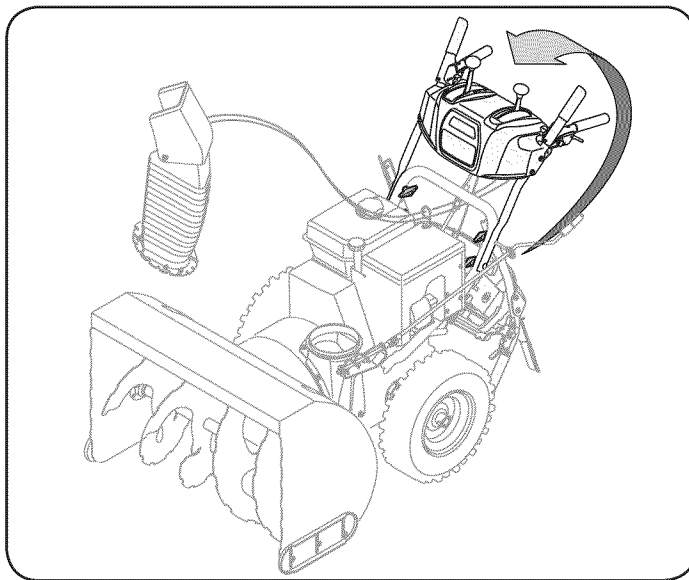

Figure 1
2. Remove the lower plastic wing nut, belleville washer and carriage bolt from each side of the upper handle; then raise the upper handle assembly until it snaps over the lower handle. See Figure 1.